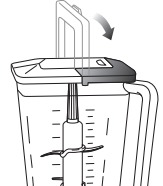

Fig. 5
- 9 Holding the lid by the handle in the upright position, place it on top of the pitcher aligning the arrow (↘) located on the lid with the arrow (↗) located on the pitcher's handle. (Fig. 5)